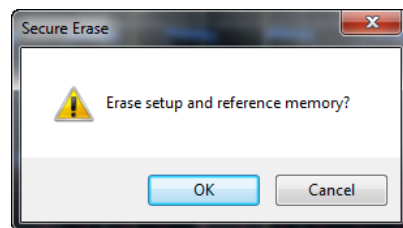

Figure 2-102 Secure Erase dialog
- 2 The Secure Erase confirmation dialog is displayed as shown in Figure 2-102. Select **OK** to perform the secure erase operation.